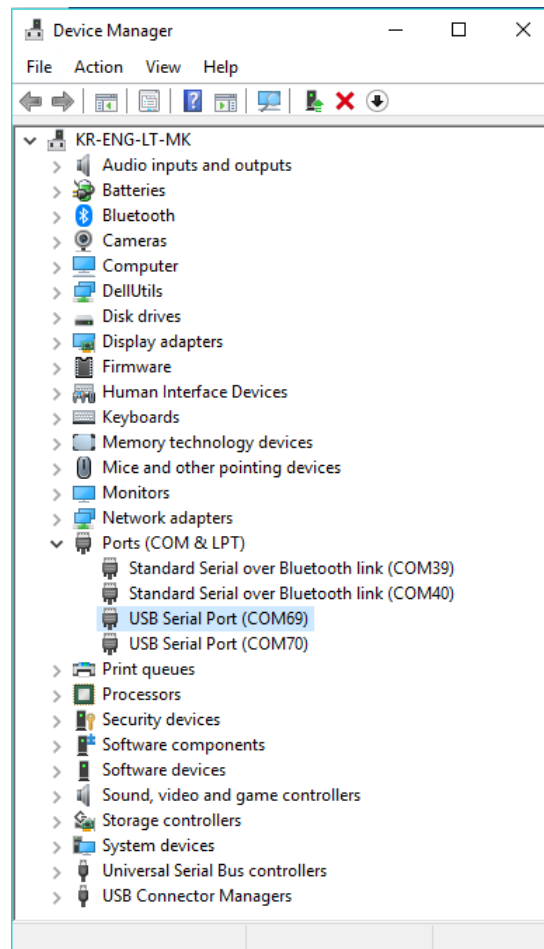

Figure 34. Check COM ports on device manager
There are two virtual COM ports created by the Windows driver. The first COM port (lower number, COM69 in Figure 34) provides a UART interface for debugging or firmware download between the PC and the DA161200. The second (higher number, COM70 in Figure 34) is used for AT command.
2. Make sure that the PC discovered the two serial ports in Windows Device Manager as shown in Figure 34. The higher COM port number is connected to UART1.